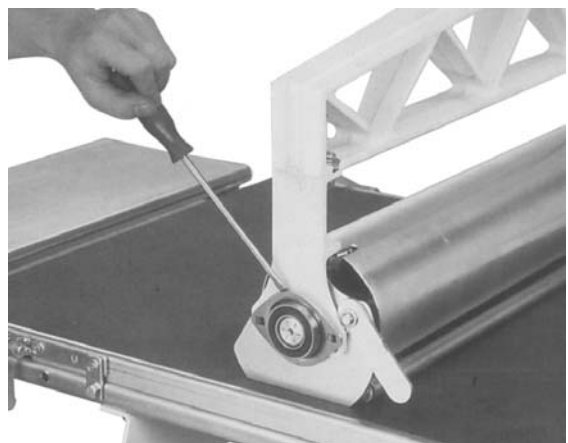

Figure 34
3. *Outboard:* Remove the two knobs and washers that are holding the bearing in place. Loosen the two set-screws in the bearing collar and slide the bearing off the end of the drum (Figure 34).